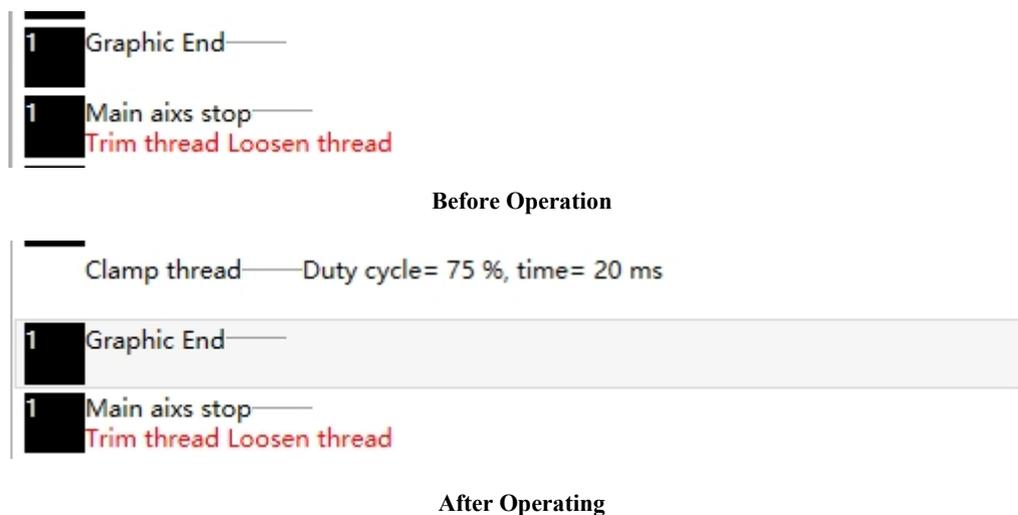

Fig. 5.10.2a Schematic Diagram of the Operation of the Graphic End Command Set
③ After adding all commands, if there are any that need to be deleted or modified, just double-click the command segment to change the parameters and the parameter setting box will pop up. To delete a command, just select the command segment and click the Delete button. To move the command segment, just select the command and click the "↑" and "↓" buttons to move the command segment up/down.
④ Finally, click OK to save this default command set. After clicking the command processing, these commands will be added by default at the end of the graphic. The operation diagram is shown in Fig. 5.10.2a below.
⑤ Layers can also be set. If you only set the default command set for layer 1, select layer 1 to set it. If you want to set the default command set for all graphics, you need to click the layer